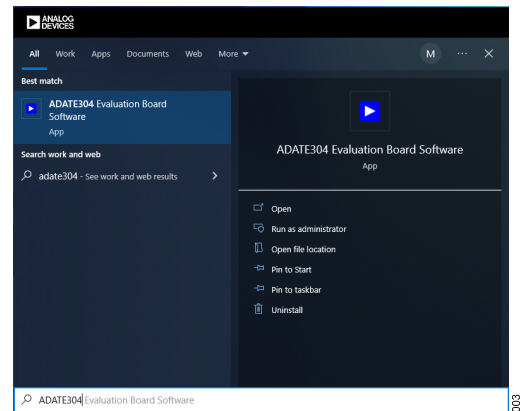

Figure 3. Windows Search
- ▶ Search for the **ADATE304 Evaluation Board Software** using the Windows search feature, and then select the **ADATE304 Evaluation Board Software** in the results pane (see Figure 3).